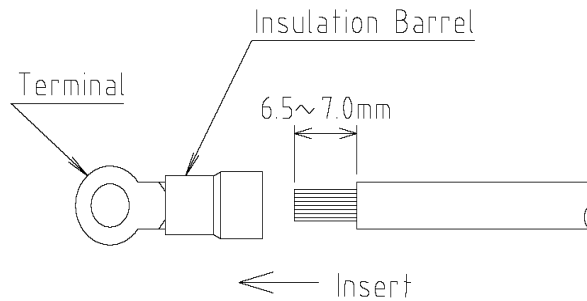

FIGURE 2-19
- a. Refer to **Figure 2-19**. Strip approximately 6.5 ~ 7.0mm of insulation by using the appropriate wire stripping tool for a 1.5mm² wire.